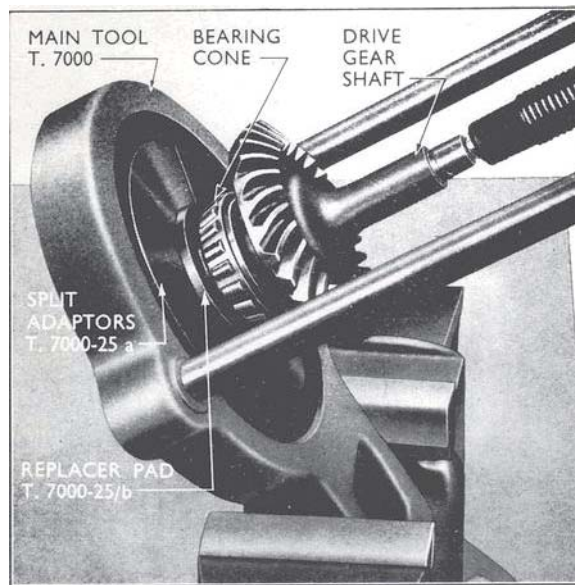

Fig. 13
4. To assemble the large bearing cone to the drive gear shaft remove the slave ring from Main Tool T.7000, fit the split adaptors T.7000-25/a to the tool and position the replacer pad T.7000-25/b on the split adaptors, parallel spigot of the pad located in the counterbore of the adaptors. Position the large bearing cone on the replacer pad so that the small diameter end of the cone is adjacent to the pad, locate the large end of the drive gear shaft in the bearing cone then press the cone onto the shaft (see Fig. 13).